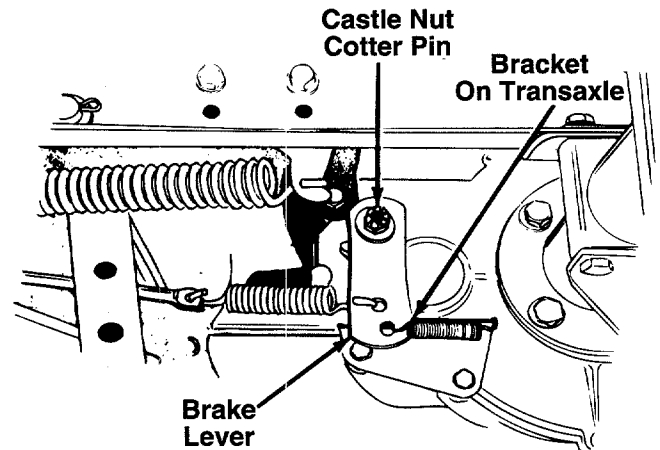

FIGURE 16.
- c. After rod is adjusted to fit over pin, then turn rod **four (4) full turns counterclockwise**. Move speed control lever to second position. Attach rod to pin on variable speed torque bracket, using the flat washer and cotter pin.
11. Adjust the brake by removing the cotter pin. Tighten the nut by hand until the brake lever locks against the bracket on the transaxle. See figure 16.